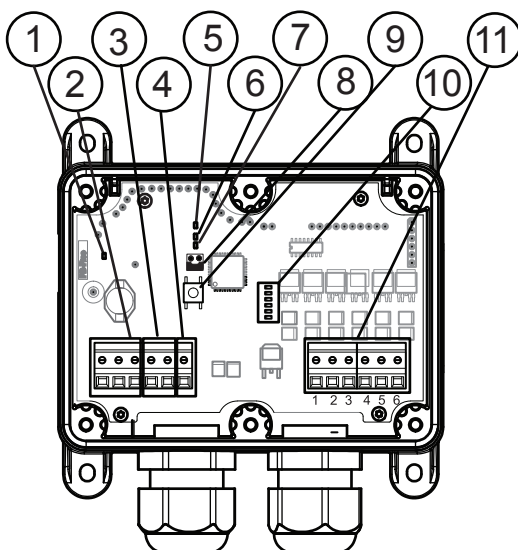
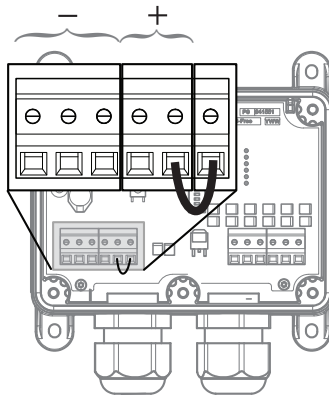

Figure 1. Sesam 800 RXM model indicators, connections and jumper
Figure 3. Configuring internal supply of output power
The Sesam 800 RXM model has LED indicators that indicates different parameters (see fig. 1 for positions of the LEDs).
**Power LED (see ① in fig. 1)**
**LED 5 Squelch (see ⑤ in fig. 1)**
**LED 6 Status (see ⑥ in fig. 1)**
**LED 7 Learn (see ⑦ in fig. 1)**
**Outputs LEDs (see ⑩ in fig. 1)**
Connect 12-24 V DC (+) to position 3 and ground (-) to position 2 (see ③ and ② in fig 1).
Connect the equipment to be controlled to output terminals 1..6 (see ⑪ in fig. 1) and equipment ground to position 2 (see ② in fig. 1). If the outputs are to be powered by the same 12-24 V DC supply as the receiver place a jumper between the Output Power Input (SW) and Positive (+) 12-24 V DC using a 0,75 mm2 cable (see fig. 3).
- Push the “Learn/Erase” button until LED 7 (see fig. 1) is ON.
**Caution.** All outputs must be disabled before configuration by disconnecting the Output Power Input (SW) terminal (see fig. 3).
2. Disconnect the Output Power Input terminal, see figure 3.